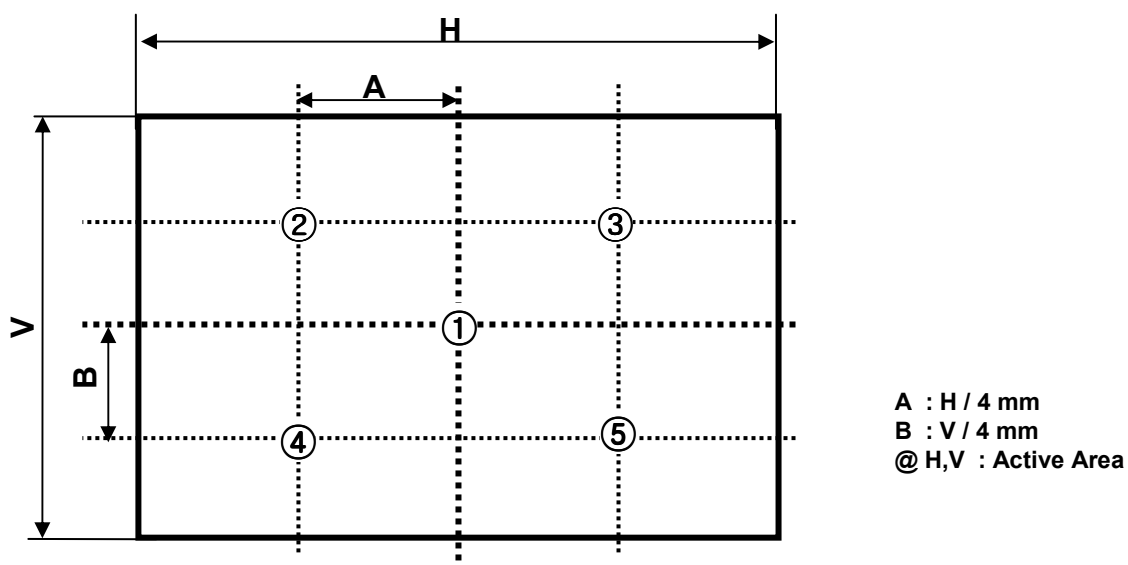

FIG. 2 5 Points for Luminance Measure
2. Surface luminance is the luminance value at center 1-point across the LCD surface 50cm from the surface with all pixels displaying white. For more information see the FIG. 2.
For more information, see the FIG. 2.